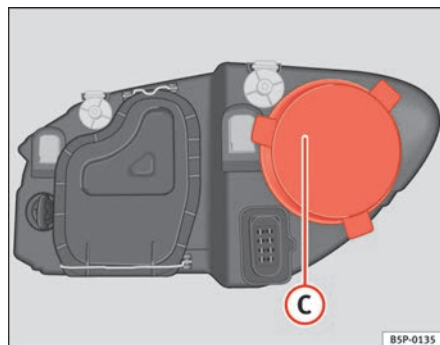

Fig. 180 Main beam headlights
- Remove the cover ⇒ fig. 180 ③ by pulling on this.